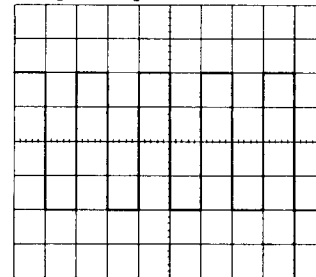

Figure 4-3
- 5) Set the AC-GND-DC switch to the AC state. A waveform as shown in the figure 4-3 will be displayed on the CRT screen
- 8) Adjust the $\blacktriangle$ POSITION and $\blacktriangledown$ POSITION controls in appropriate positions so that the displayed waveform is aligned with the graticule and voltage(Vp-p) and period(T) can be read conveniently. The above are the basic operating procedures of the oscilloscope. The above procedures are for single-channel operation with CH 1. Single-channel operation with CH 2 can also be achieved in a similar manner. Further operation methods are explained in the subsequent paragraph.